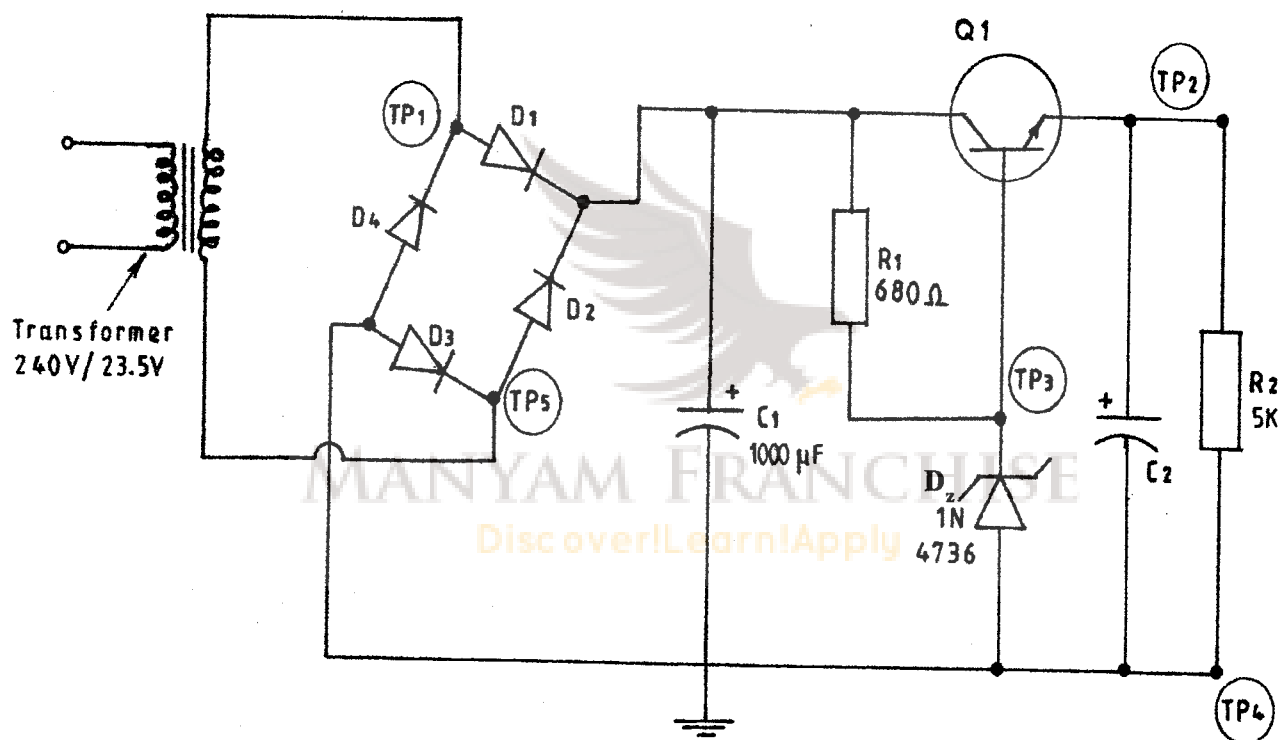

Fig. 4
4. Figure 4 shows a stabilised 6 V d.c. power supply. Using the components and equipment provided: